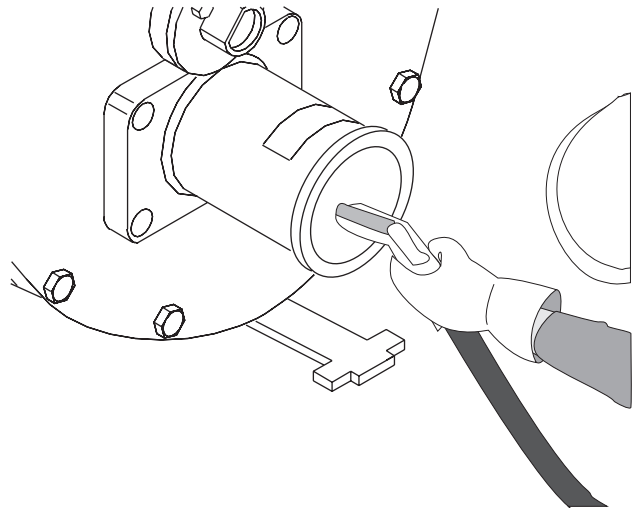

Figure 22
- Spray water into the opening, washing the end of the rubber ram, the material cylinder, the rock valve, and the outlet pipe (Figure 22). Continue washing until the water that leaves the valve is clear and clean. Visually inspect that no rocks, sand, or clumps of concrete remain. If there is still material, continue spraying water.